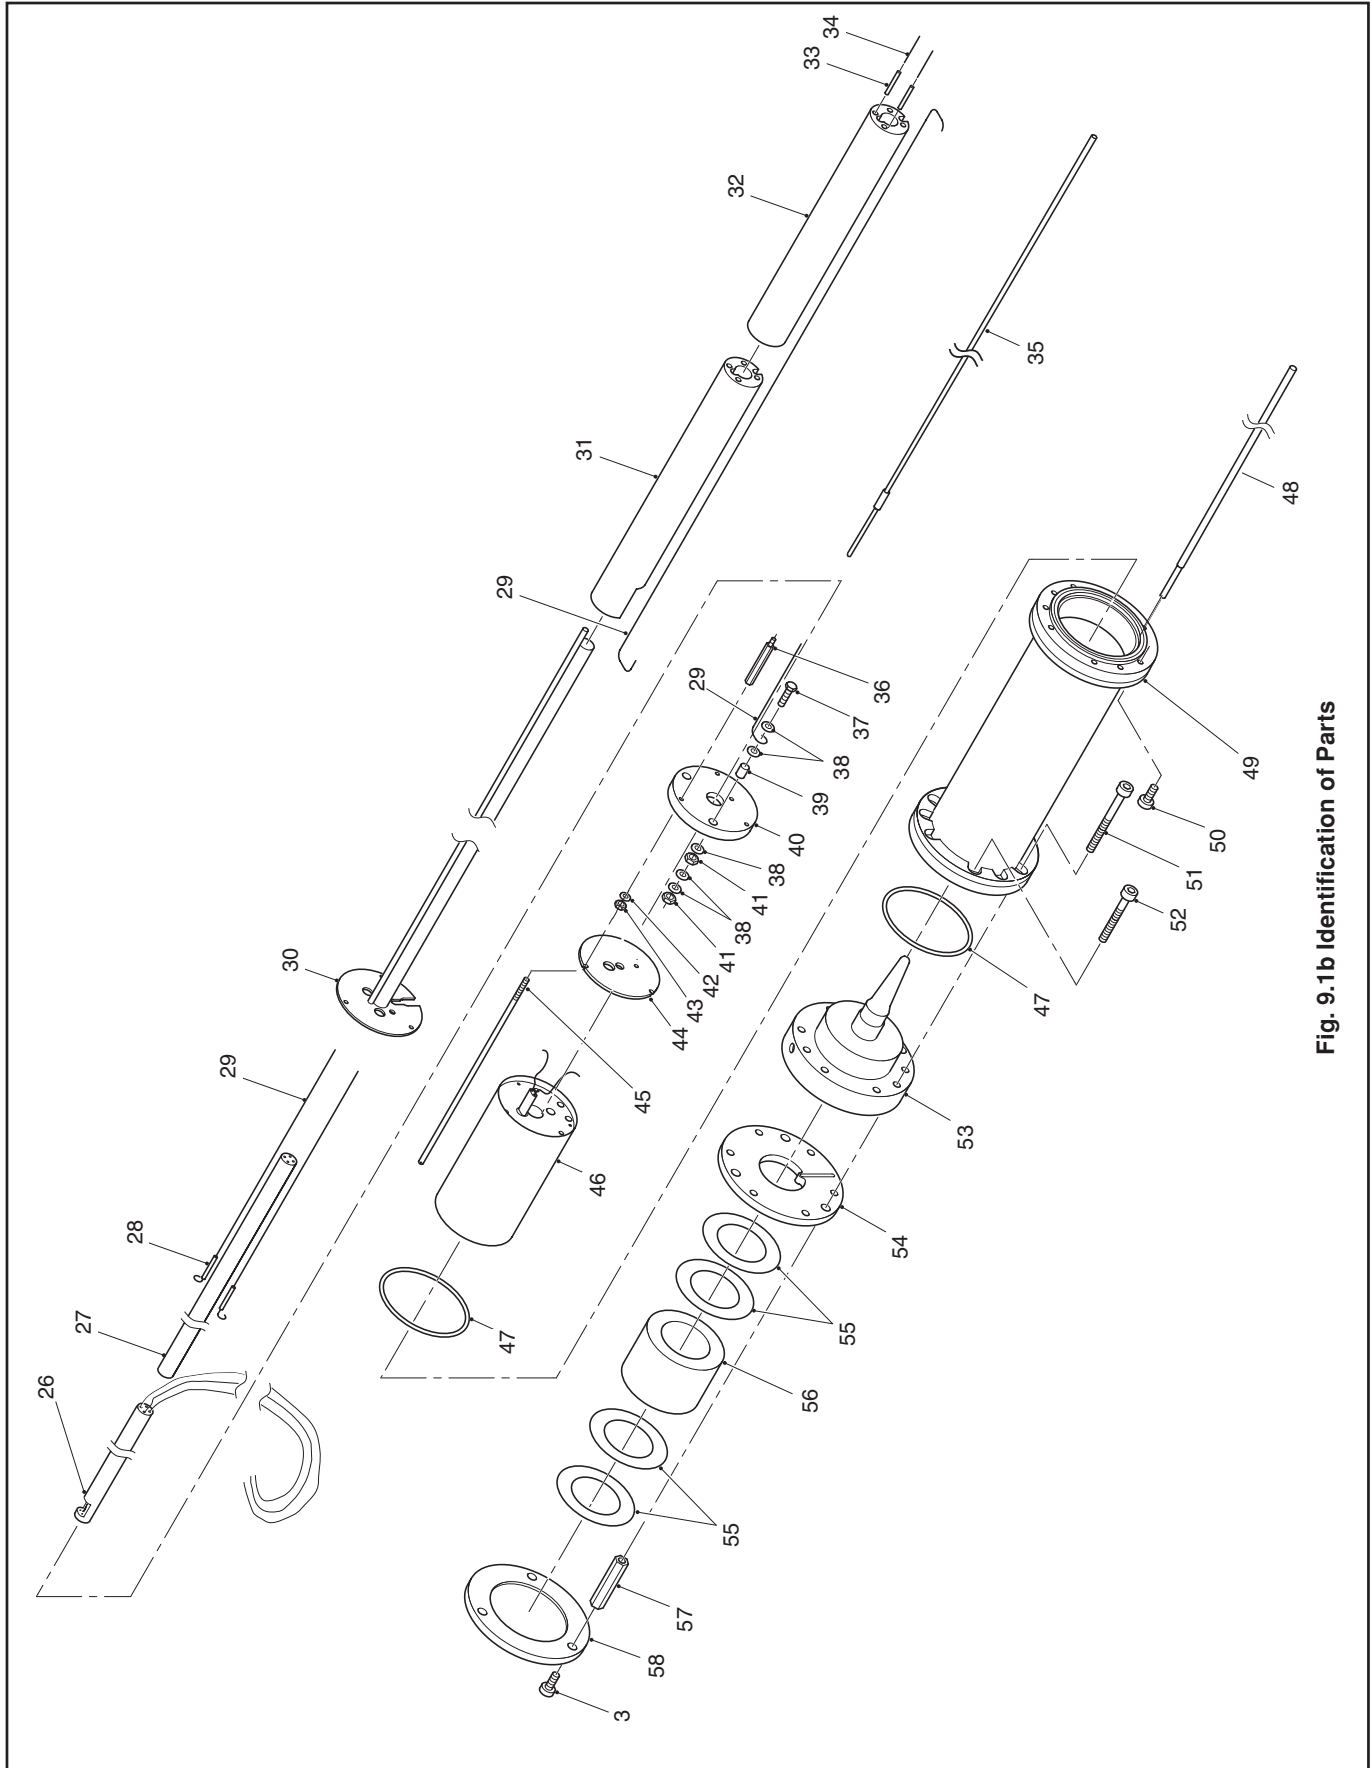

Fig. 9.1b Identification of Parts
A replacement trip thermocouple assembly is required for this procedure – see Section 9, Fig. 9.1b, item 35.